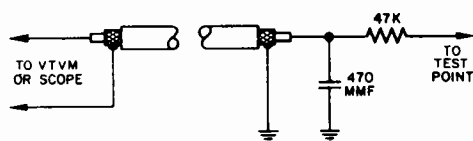

Figure 8 - Decoupling Network.
**Oscilloscope and VTVM** - Use a low capacitance direct probe terminated with the decoupling network shown in Figure 8. Keep the oscilloscope calibrated for 2 volts peak to peak (P-P). Use a VTVM range suitable for measuring -1.5 volts.
For all of the following steps, connect an oscilloscope or a VTVM through the decoupling network of Figure 8, to TP (B). Fine tuning should be set to center of range. Set AGC level control fully CCW.